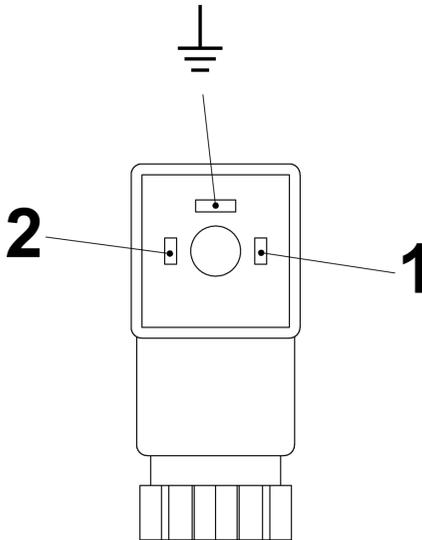
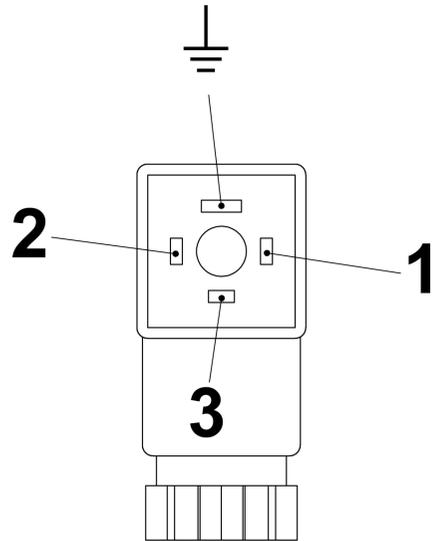

Fig. 24: Pin assignment, plug socket, Normally Open Contact (Form 15x50)
Fig. 25: Pin assignment, plug socket, Change-Over-Contact (Form 15x50)
6. ➤ Make the connections as shown in the connecting diagram ( Fig. 24 Fig. 25)